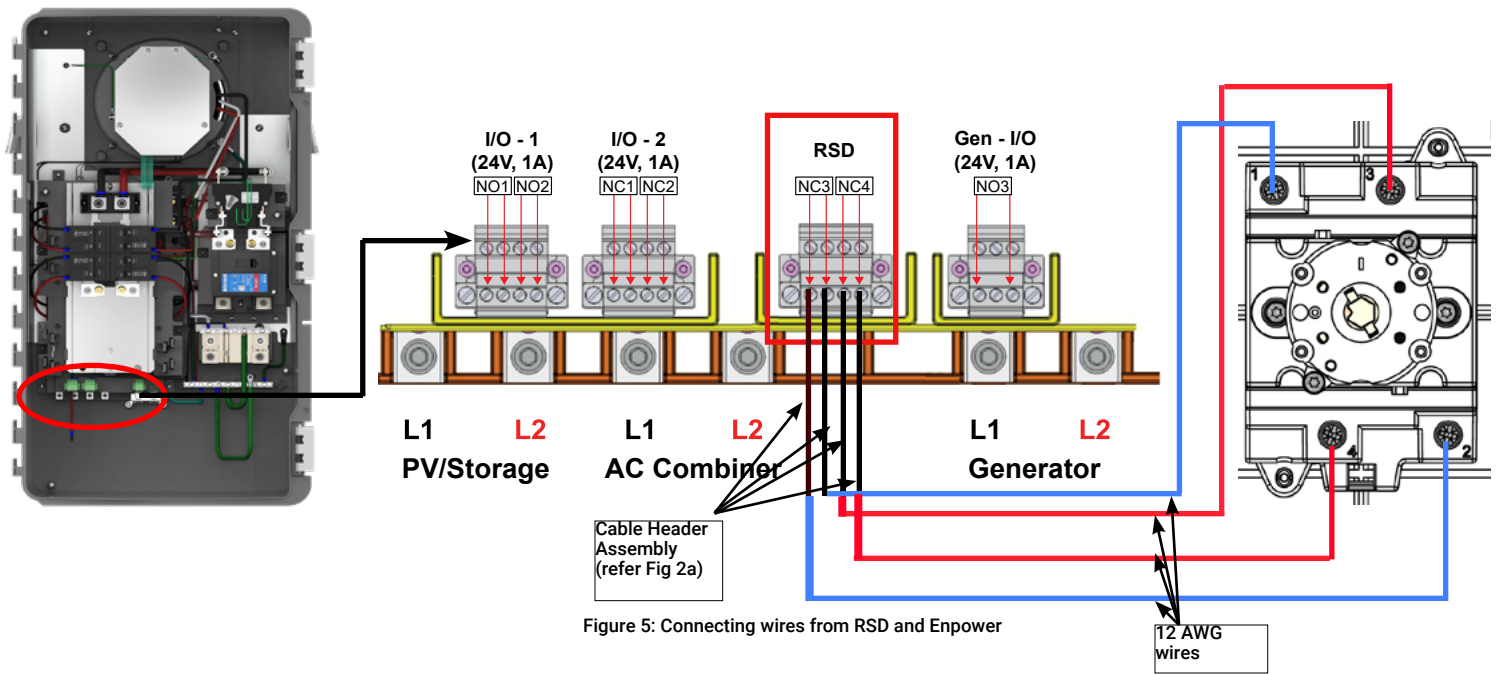

Figure 5: Connecting wires from RSD and Enpower
- Connect the cables connected from Terminal 3 and 4 of the RSD to the yellow portion of the cable header assembly (Figure 2) from NC4 and crimp it. Refer to Figure 5 and table below.